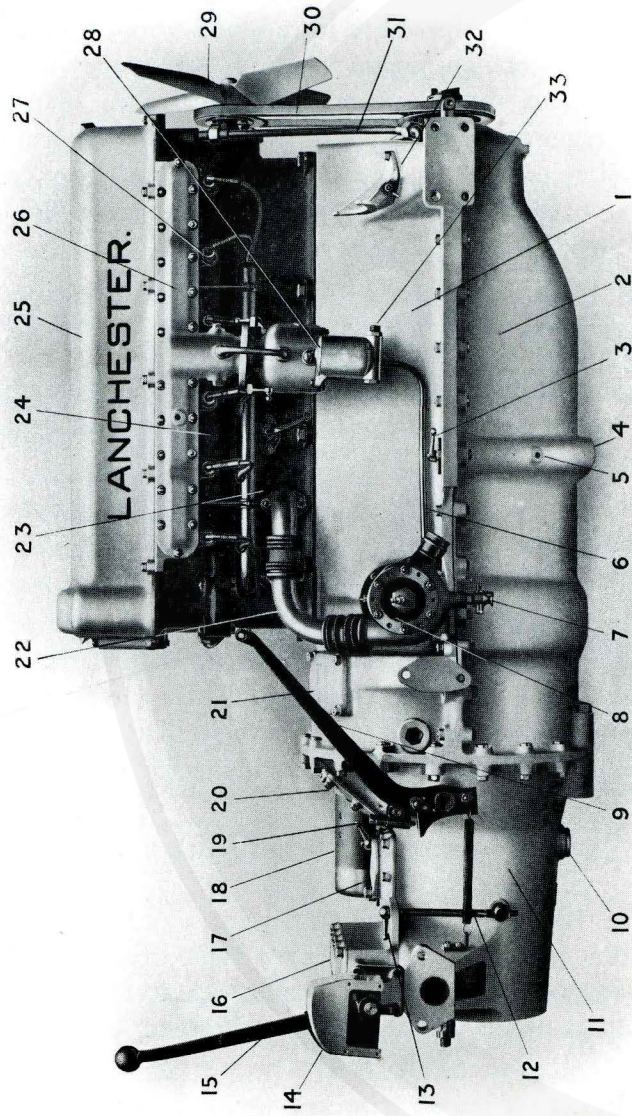

Fig. 3. Power Unit.
*Engine.* As already mentioned in the General Description, the engine Figs. 3, 4 and 5, has six cylinders cast Monobloc with detachable head, which may be removed without disturbing the overhead valves and camshaft. The combustion space is partially spherical in form and entirely machined, a process contributing to efficiency and evenness of running. The overhead valves and camshaft are totally enclosed by a detachable aluminium cover. Two exhaust manifolds of ample diameter are provided, each serving three cylinders. The water circulation is by centrifugal pump and its temperature is controlled by a thermostat which chokes the circulation until the water is raised to a suitable temperature.
### Description of fig. 3.